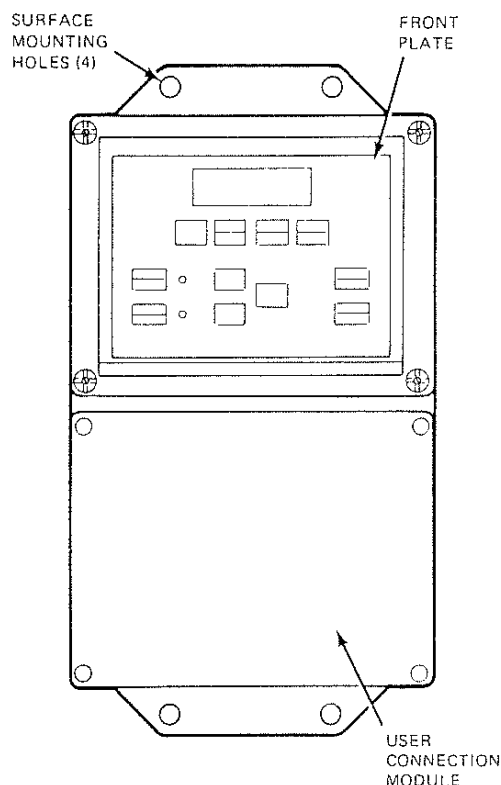

Figure 5. Hole Locations for Surface Mounting
2. Position Monitor against bulkhead so that monitor surface mounting holes align with studs or holes drilled in bulkhead per Step 1. Refer to Figure 5.